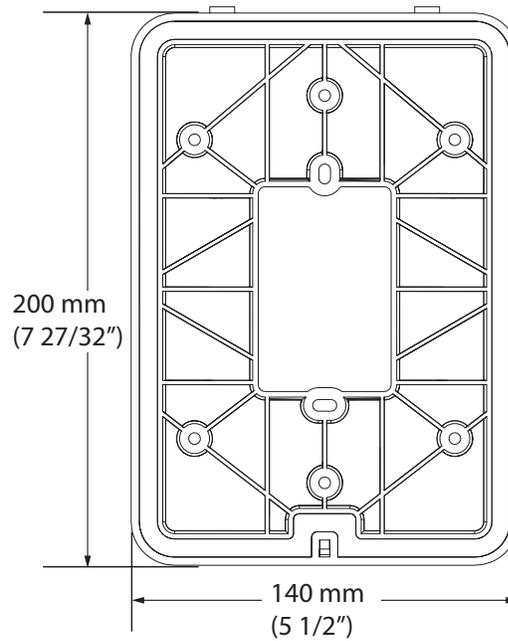

Figure 2. Dimensions of the mounting plate
- Figure 2. Dimensions of the mounting plate **9**